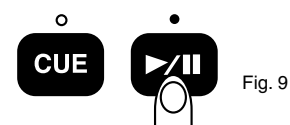

Fig. 9
- 1) Be sure you are in playback mode. The **PLAY/PAUSE BUTTON'S (29)** LED will be glowing (Fig.9).